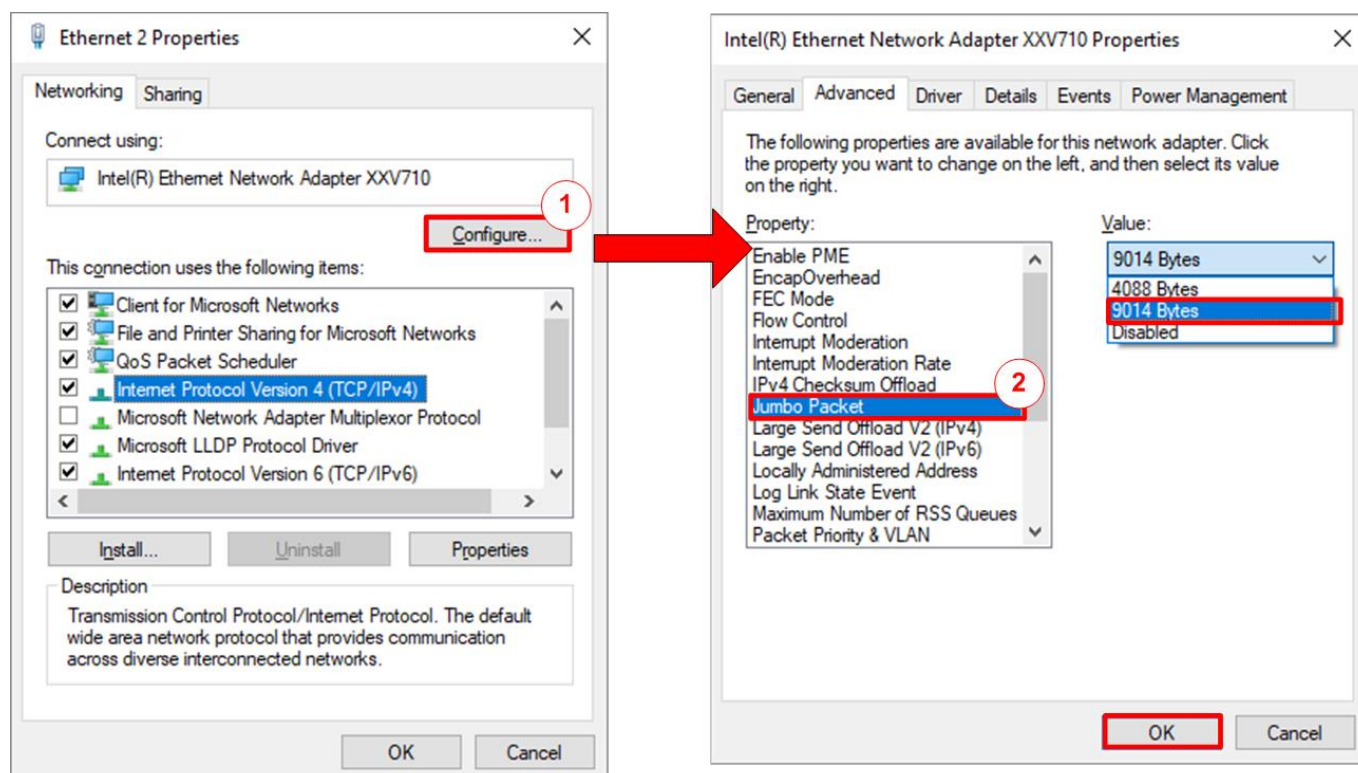

Figure 2-2 Set frame size = Jumbo frame
- 1) On Local Area Connection Properties window, click “Configure” as shown in Figure 2-2.
- 2) On Advanced Tab, select “Jumbo Packet”. Set Value to “9014 Bytes” for Jumbo Frame support or set value to “Disabled” for non-Jumbo Frame support, as shown in the bottom window of Figure 2-2.